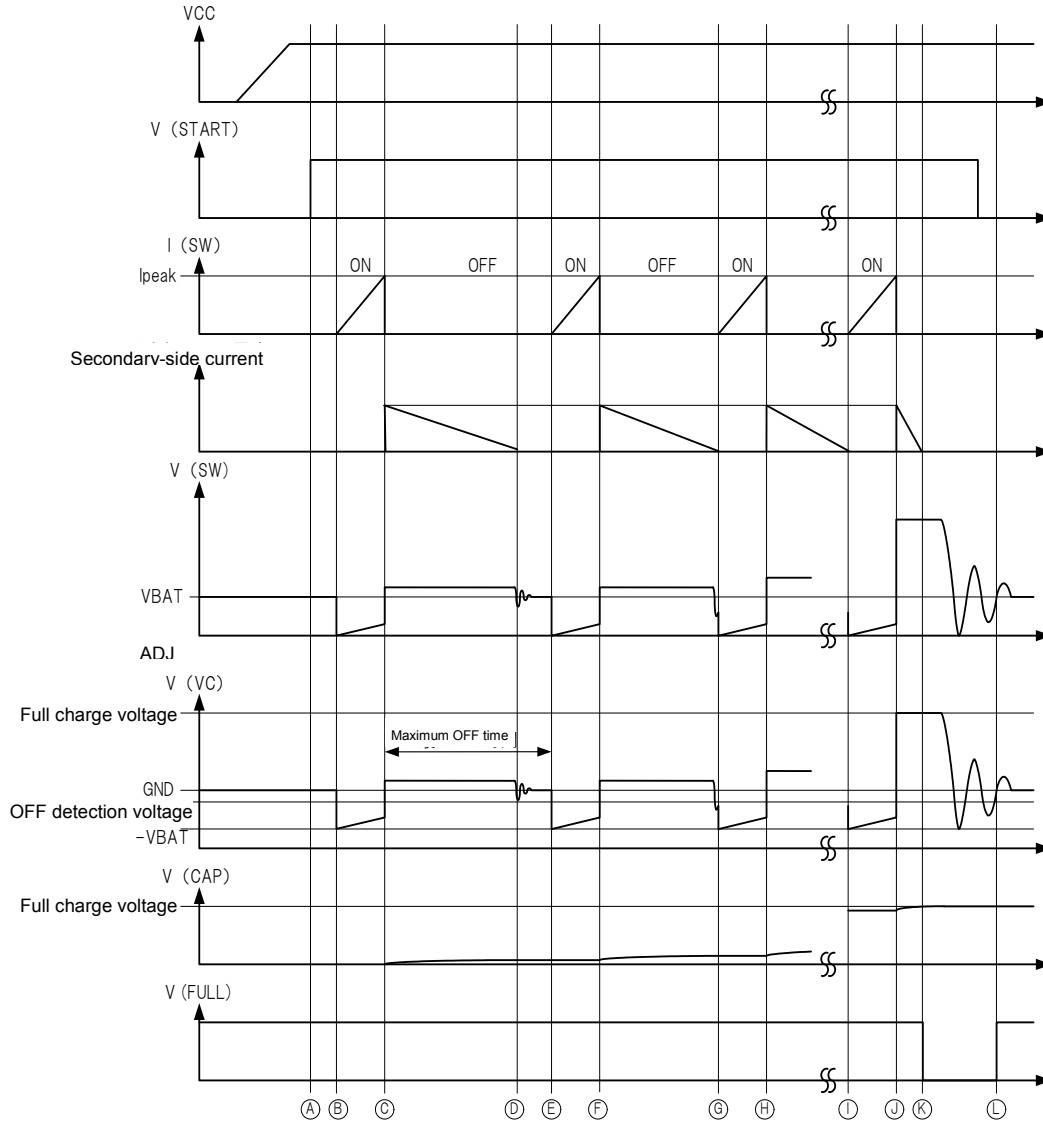

Fig 34. Timing Chart 2: Switching Operation
The switching operation of this IC is shown in Fig.34 Timing Chart 2.
If the START pin is set to "H", all internal circuits are reset, the internal PowerTr is turned ON. (See Fig 34. Time ④→⑤.) While the internal PowerTr is turned ON, a current is passed into the SW pin. When the current specified at the RADJ pin voltage is reached, the PowerTr is turned OFF. (See Time ③ in Fig 34.) The time t_{ON} when the PowerTr is ON is indicated as follows:
When the energy release to the transformer secondary-side is completed, the VC pin voltage and the SW pin voltage produce resonance by the parasitic capacitance and the transformer inductance. (See Time ④ in Fig 34) At this time, unless the VC pin voltage becomes the GND voltage or less shown, the PowerTr remains OFF till the maximum OFF time is reached. (See Time ⑤ in Fig 34) As soon as the OFF detection voltage or less is reached, the PowerTr is turned ON. (See Time ⑥ in Fig 34) The time, t_{OFF} when the secondary-side releases energy is represented by the following equation:
When it is detected that the internal PowerTr is left OFF for over the maximum OFF time specified in the electrical characteristics, the PowerTr is forced to be turned ON. This occurs unless the VC pin voltage becomes the OFF detection voltage specified in the electrical characteristics or less. (See Time ㉞ in Fig 34)
VC pin node is divided by between transformer Secondary node and Fast recovery diode anode side by resistor R_{FB1}, R_{FB2} and R_{FB3}. When VC pin voltage reach until full charge voltage as Fig.34 timing chart ①~④, charge is stopped.